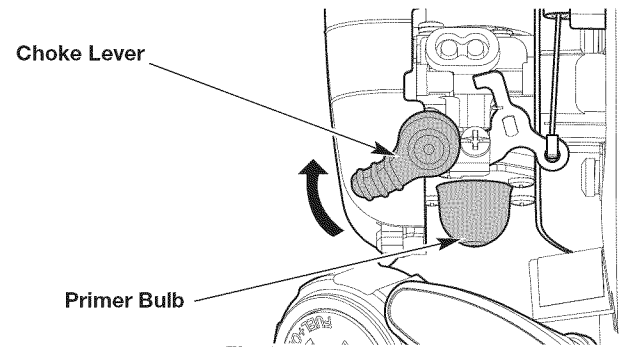

Fig. 8
3. Slowly press and release the primer bulb **10 times** (Fig. 8). If fuel cannot be seen in the primer bulb, press and release the primer bulb until fuel is visible.
5. Flip the choke lever clockwise until it clicks (Fig. 8).